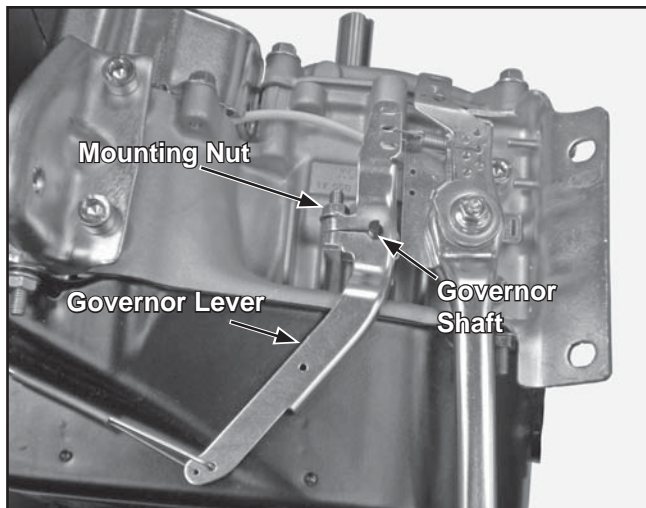

Figure 5-19. Governor Adjustment.
3. Loosen the governor lever mounting nut. See Figure 5-19.